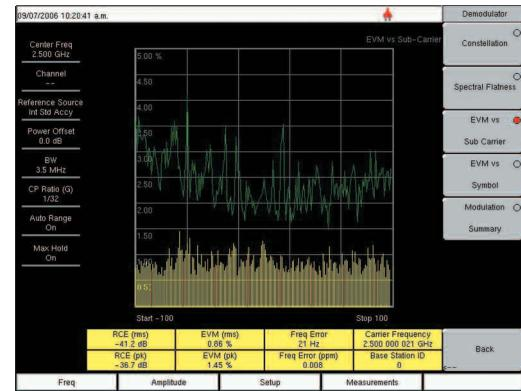

Figure 10. EVM versus Subcarrier view.
3. Press the EVM vs. Subcarrier soft key to activate the measurement. The red dot on the soft key indicates it is selected (Figure 10).